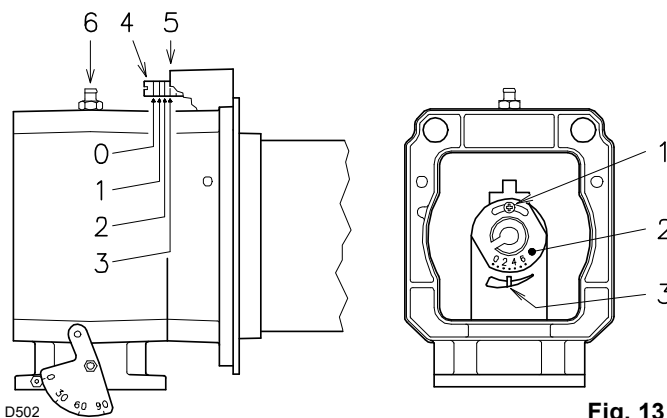

Fig. 13
- Turn the screw 4 (Fig. 13) until the notch found lines up with the front surface 5 of the flange.
To facilitate the adjustment, loosen the screw 6 (Fig. 13), adjust, then block.
- Loosen the screws 1 (Fig. 13) and rotate the ring nut 2 until the notch you have found corresponds with the indicator 3).